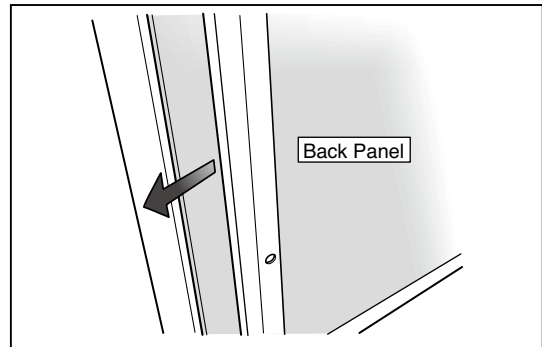

Fig.12
5) Remove the Back Panel. (See Fig. 12)
1. Slide the Back Panel and remove it shown in the figure 12.